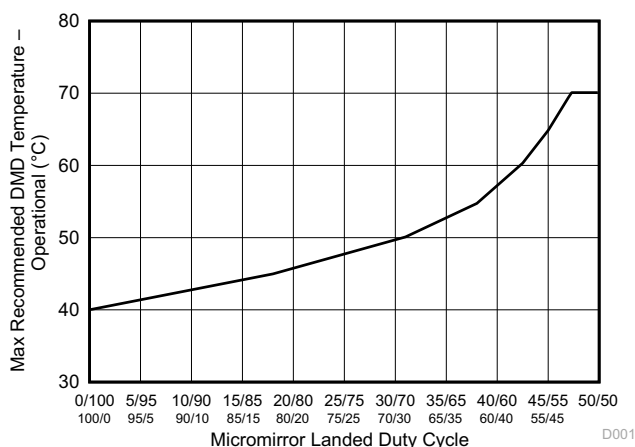

Figure 7-1. Maximum Recommended DMD Temperature – Derating Curve
- (6) Per Figure 7-1, the maximum operational case temperature at test points TP1 and TP2 as shown in Figure 8-3 or Figure 8-4 should be derated based on the micromirror landed duty cycle that the DMD experiences in the end application. Refer to Micromirror Landed-on/Landed-off Duty Cycle for a definition of landed duty cycle.
- (7) Long-term is defined as the average over the usable life.